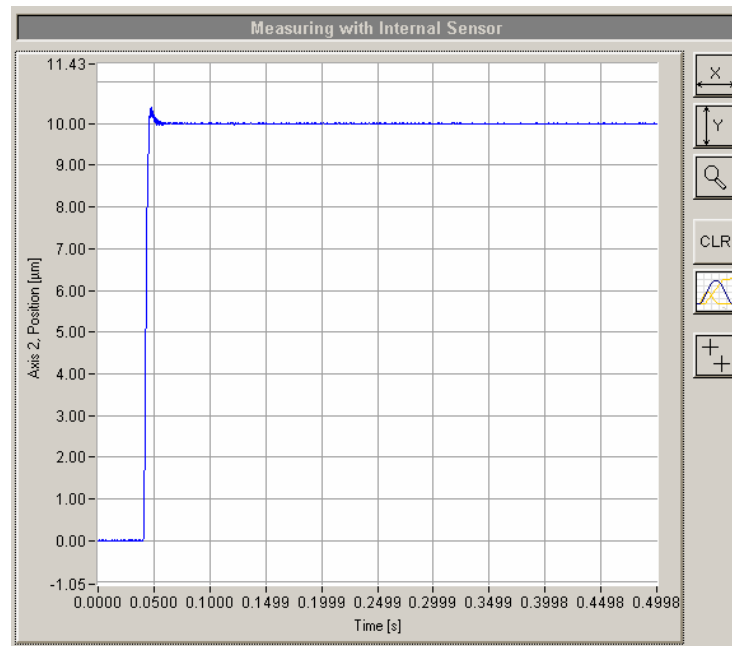

Fig. 49: Step response; high speed, low overshoot
- If the *loop gain* value is increased (Fig. 49) then the rise rate also rises, but the overshoot will also increase. The figure shows a step response with a small overshoot.